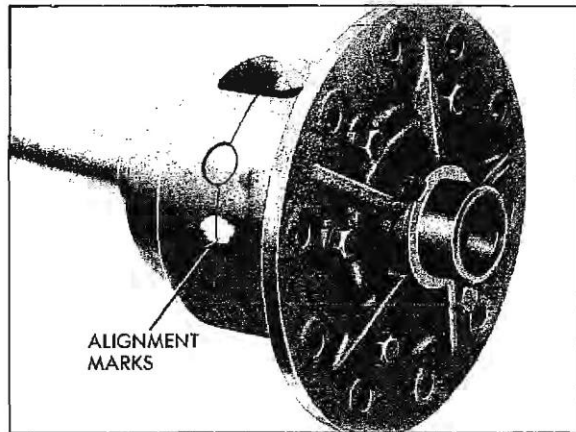

Fig. 4-49 Alignment Marks
1. Clamp one axle shaft in a vise allowing three inches to extend above vise jaws. Then place the cap side of differential case over extended axle shaft with interior of case facing up (Fig. 4-49).